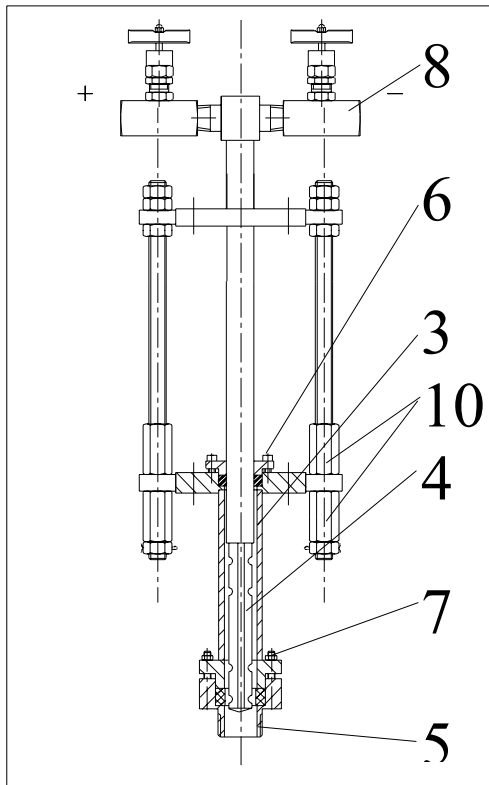

Fig. 12 Sensor profile with protection pipe
10. Verify that the sensor profile {4} is fully retracted in the protection pipe {3}. Check the position of the threaded rod (Fig. 12)
11. Now seal the threaded stud {5} with a suitable sealing compound (Fig. 12).